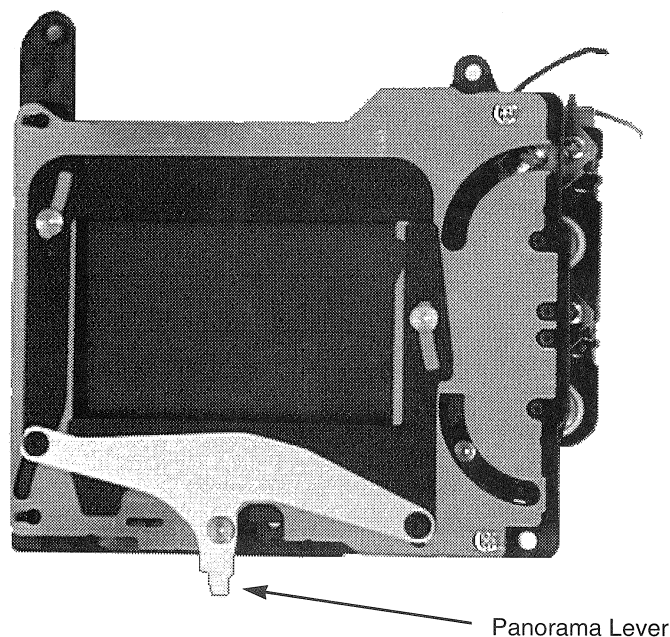

Figure 3-24 Shutter Unit
2. Peel off light shield screen (2) to remove ILC holder (3). (one screw)
4. Disconnect the three leads from the contact seat unit. (Fig. 3-24)